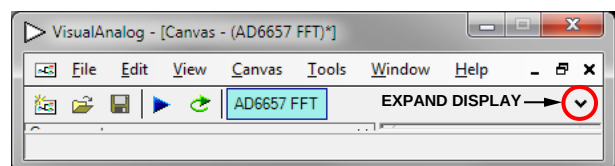
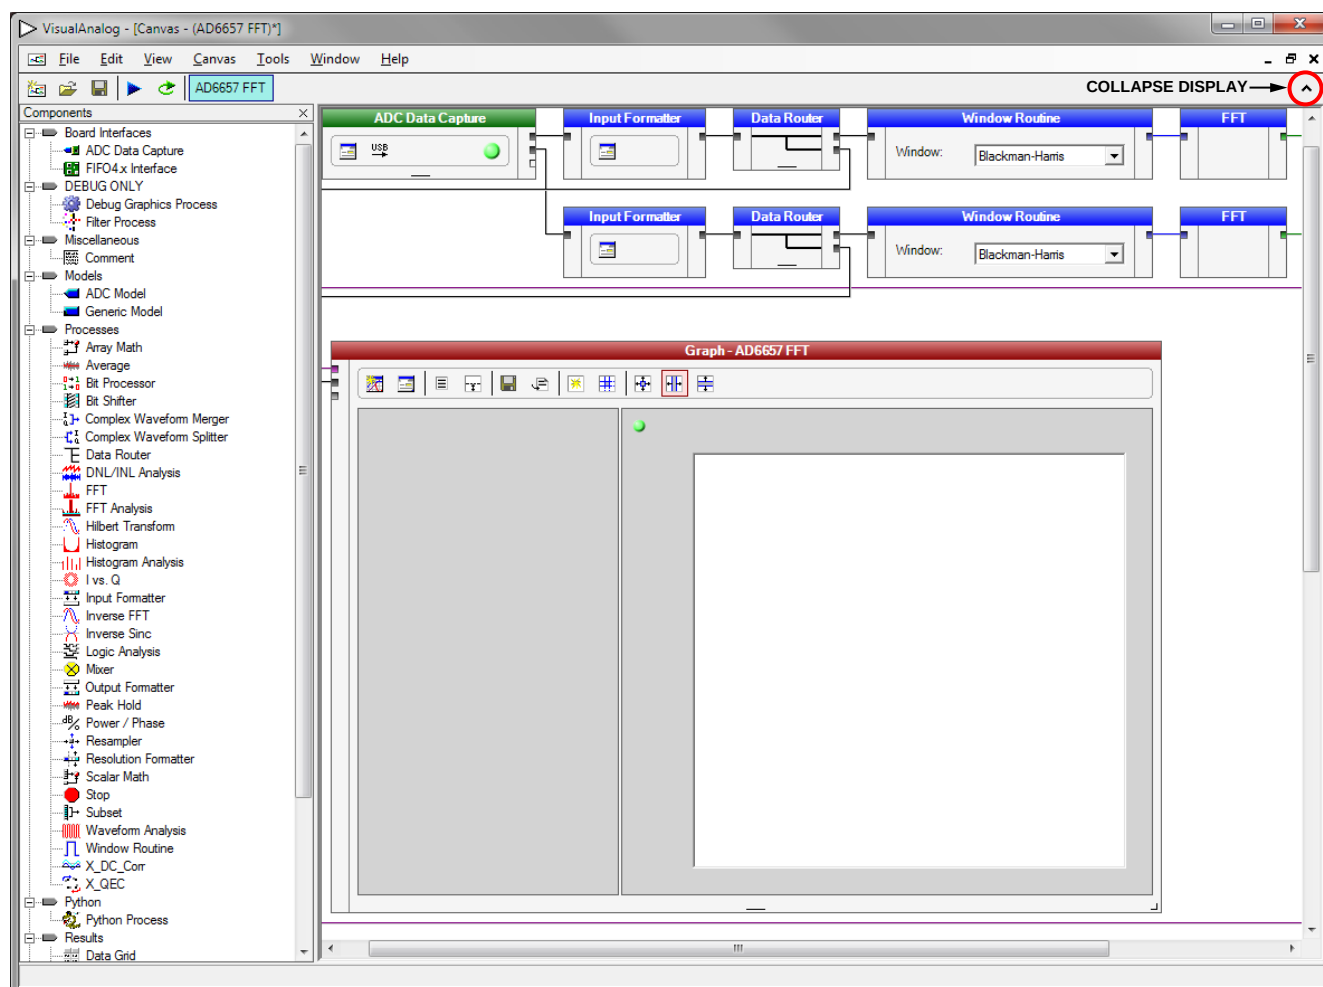

Figure 6. VisualAnalog - [Canvas - (AD6657 FFT)*] Window Toolbar, Collapsed Display
Figure 7. VisualAnalog – [Canvas – (AD6657 FFT)*], Main Window
3. To change features to settings other than the default settings, click the **Expand Display** button, located on the bottom right corner of the window shown in Figure 6 to see what is shown in Figure 7.
Detailed instructions for changing the features and capture settings can be found in the AN-905 Application Note, *VisualAnalog Converter Evaluation Tool Version 1.0 User Manual*. After the changes are made to the capture settings, click **Collapse Display** (see Figure 7).